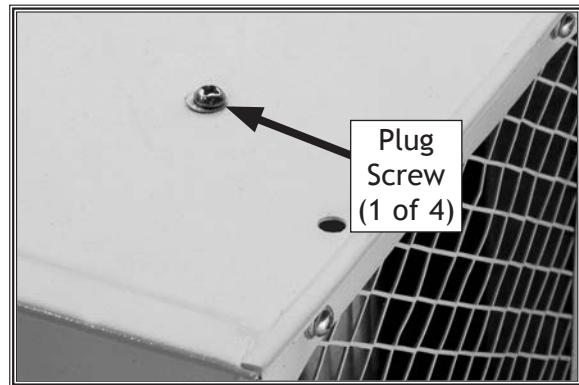

Figure 13. Plug screw.
2. Remove (4) plug screws (see **Figure 13**).